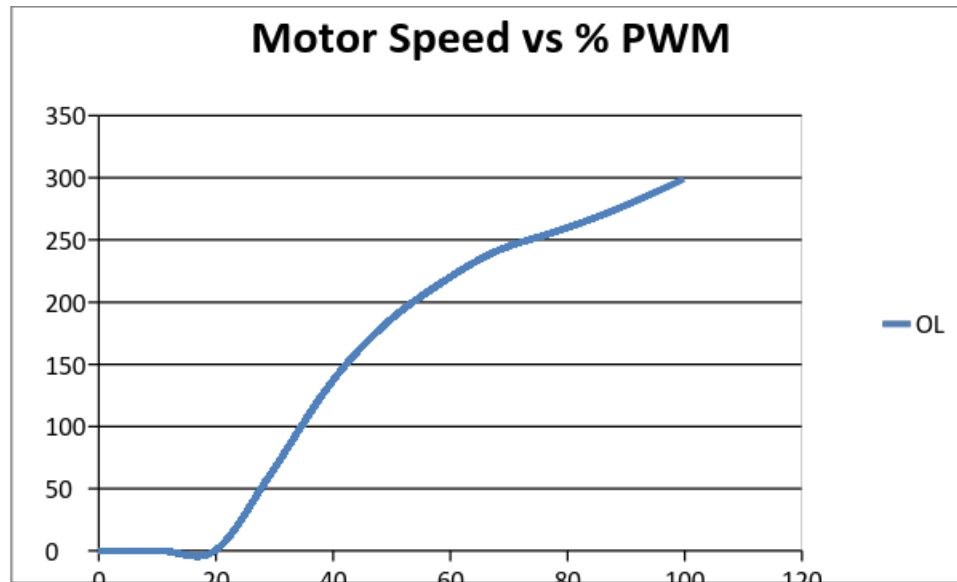

Figure 8.3. Example plot of motor speed vs. %PWM.
- c. Plot the motor speed vs. percent PWM as demonstrated in Fig. 8.3. All motors have different power-speed characteristics.